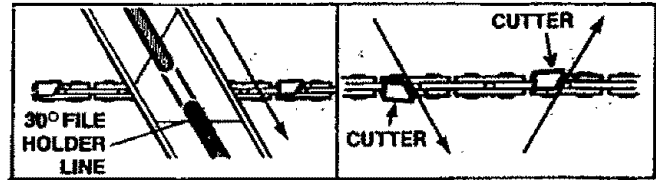

Figure 32
- b.) Hold the file holder level with the 30° guide mark parallel to the center of the chain. Figure 32.
- c.) File from inside toward outside of cutter, straight across, on forward stroke only. Use 2 or 3 strokes per cutting edge. Figure 32.